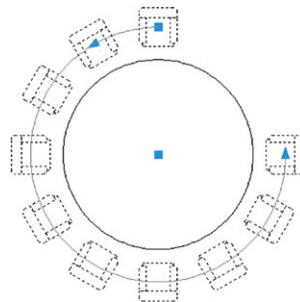

FIGURE 8.10
- **Fill Angle.** This option (also via the triangle grip) changes the included angle, currently set to 360° . An example is shown in Figure 8.10, where the fill angle has been rolled back to 270° .